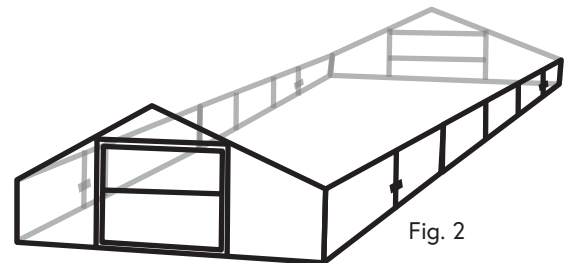

Fig. 2
Step 1: Layout coop walls on ground in open area, netting side up as netting should be installed on the inside of the coop. (Suggested 20' x 30' working area). Attach side wall front and back on each side with listed hardware. (See Figure 2). Stand up side walls and front wall. Attach with listed hardware.